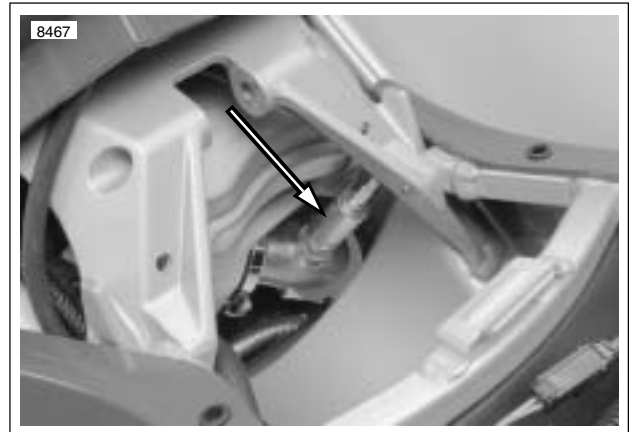

Figure 4-73. Installed Oxygen Sensor (shock absorber removed)
2. See Figure 4-73. Thread sensor into exhaust header. Tighten sensor to 40-45 ft-lbs (54-61 Nm).